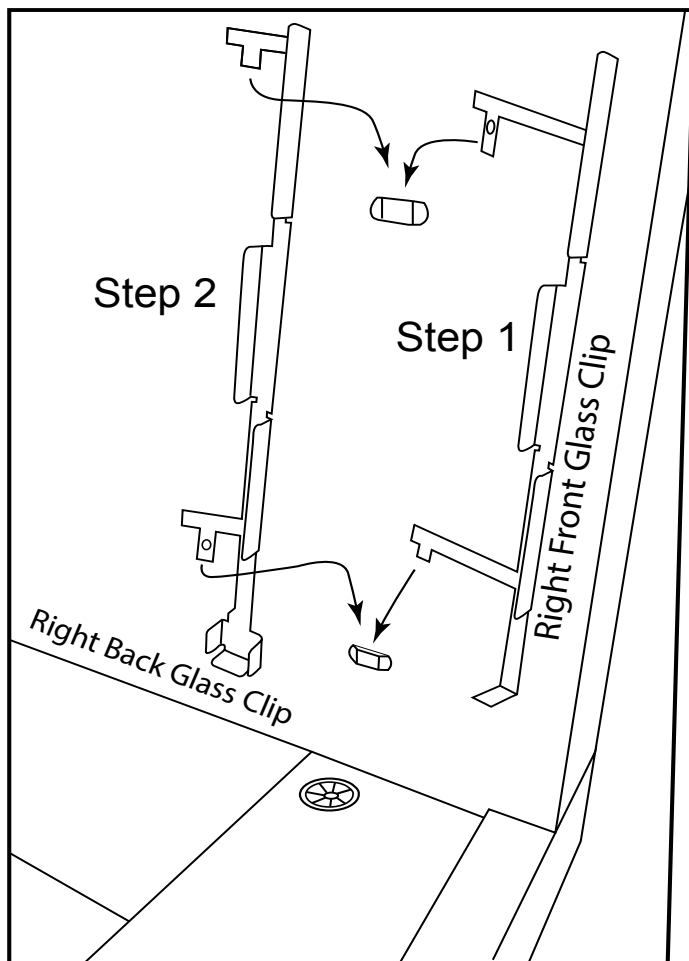

Figure 18 - Shows clip installed on right side of fireplace
NOTE: When converting to the see-through fireplace the glass windshield clips will need to be installed. See Figures 18 and 19 on Page 16. The clips will be packaged with the glass windshields. The see-through fireplace requires windshields on both sides for proper operation.
Install the LED glass clips by sliding them down through the metal bridges as shown in Figure 18. Install (1) clip on the left and (1) clip on the right side of the inner fireplace side panel. Note: If you are preparing a see-through fireplace you will install a total of (8) glass clips, two for each open side. The additional clips are supplied with the see-through conversion kit. Note: If you are preparing a see-through fireplace you will install a total of (8) glass clips, (4) on each open side.